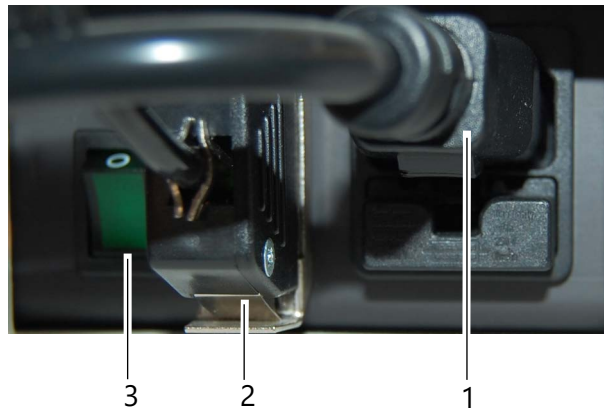

Fig. 7-2: Mesotest II Connection
- Plug the control pad into the jack (fig. 7-2, page 25).
If you are going to operate the Mesotest II via a computer/laptop, connect the latter in the same way as the control pad, fig. 7-2, page 25.
- ➔ Connect the unit to the mains with the supplied power cable, \(fig. 7-2, page 25\).
- ➔ Switch the Mesotest II on or off at the On/Off switch at the unit (*fig. 7-2, page 25*).